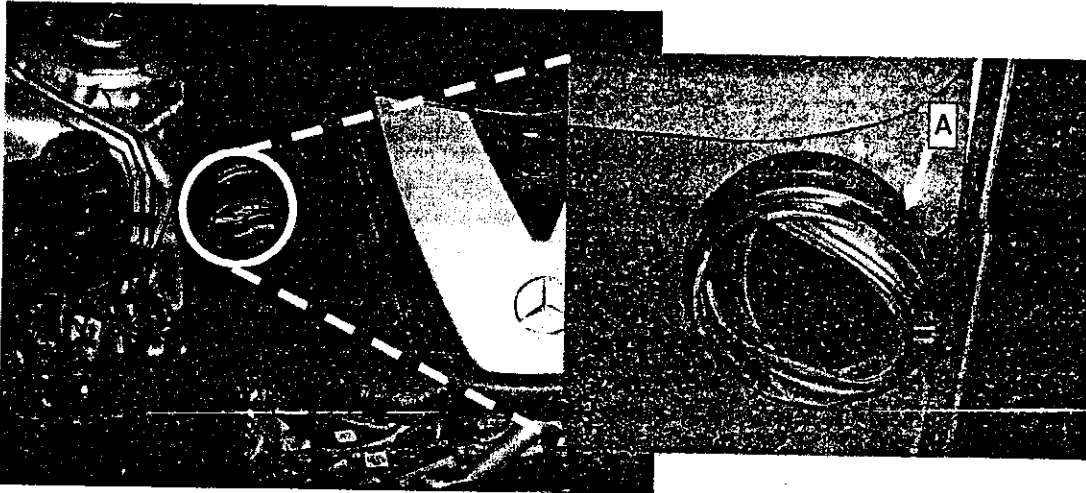

Figure 1
1. Remove engine cover and remove old seal (A) at engine oil filler neck opening (figure 1).